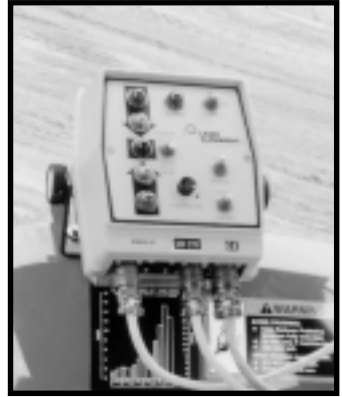

Figure 2.2
- We recommend attaching the panel to the tractor's wheel well as shown in Figure 2.2.